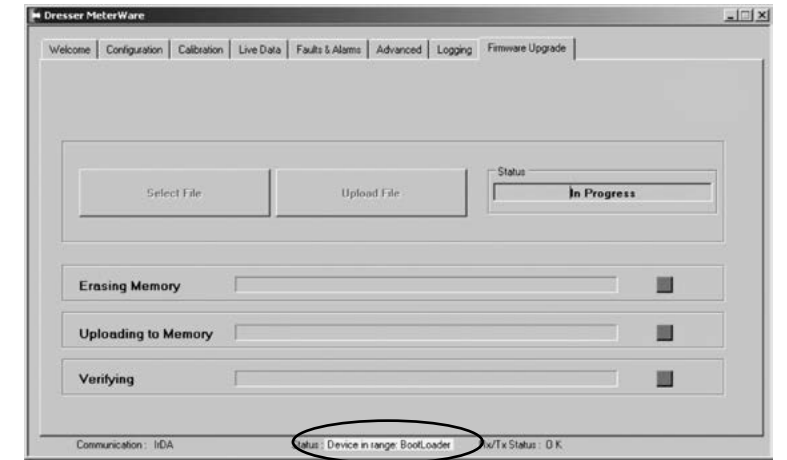

Figure 15.7 - Device in Range: BootLoader
- G. The software also begins to search for the **BootLoader**, which is necessary to up grade the firmware (Figure 15.7)